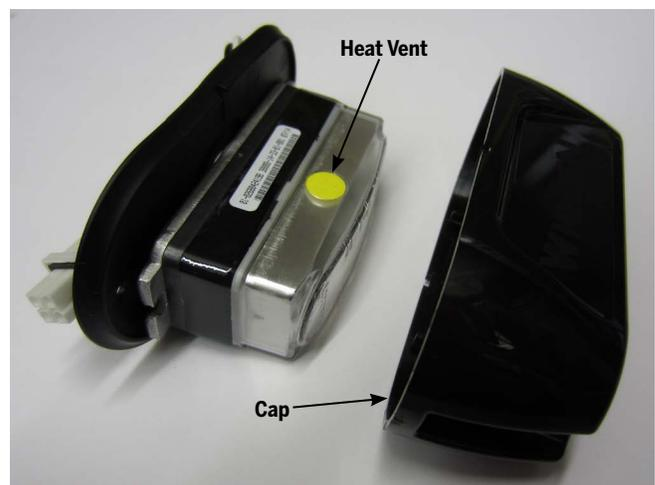

Figure 63: Heat Vent Location
- Security: Locate the heat vent (Figure 63)